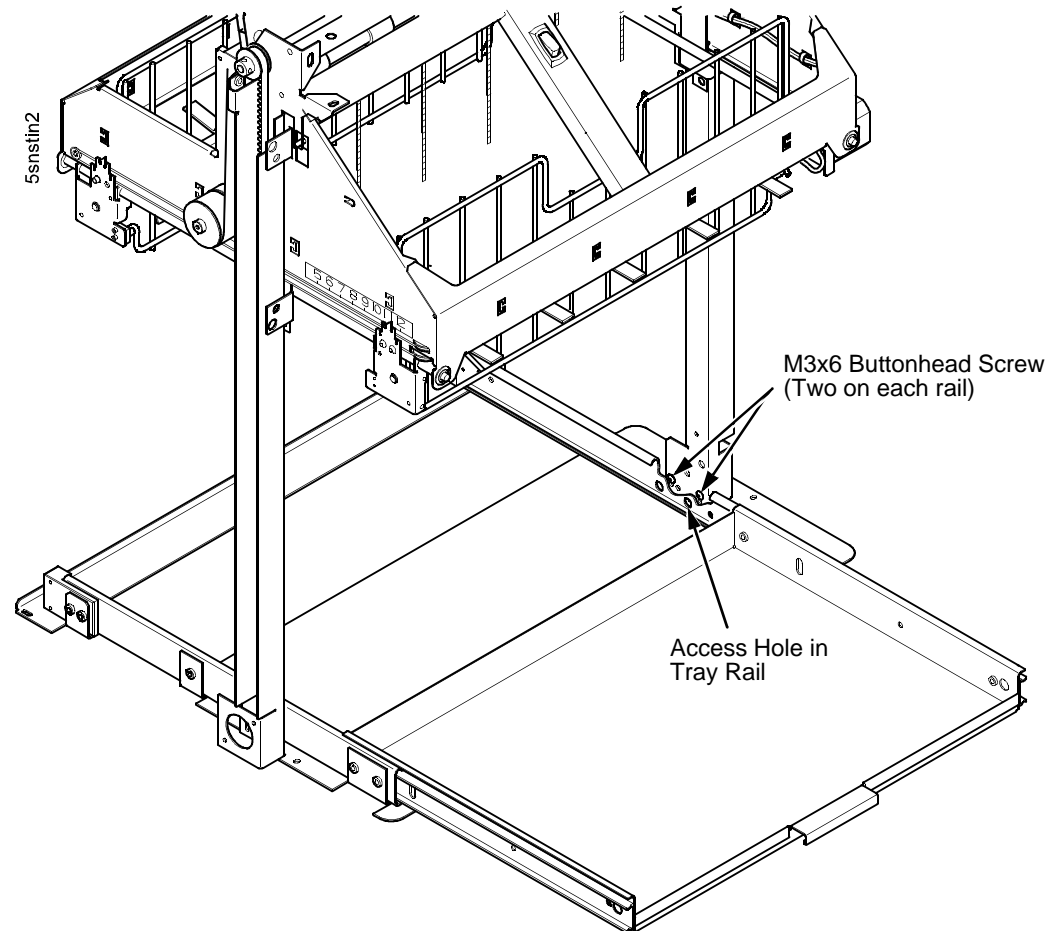

Figure 81. This figure shows how to loosen the lower screws in the vertical rails of the stacker.
11. Pull the paper tray out until the holes in the rails permit access to the M3 buttonhead screws. (Figure 81)
12. Loosen one turn—do not remove—the M3x6 screws securing the vertical rails to the stacker base. Each rail is secured by two screws. (Figure 81.)